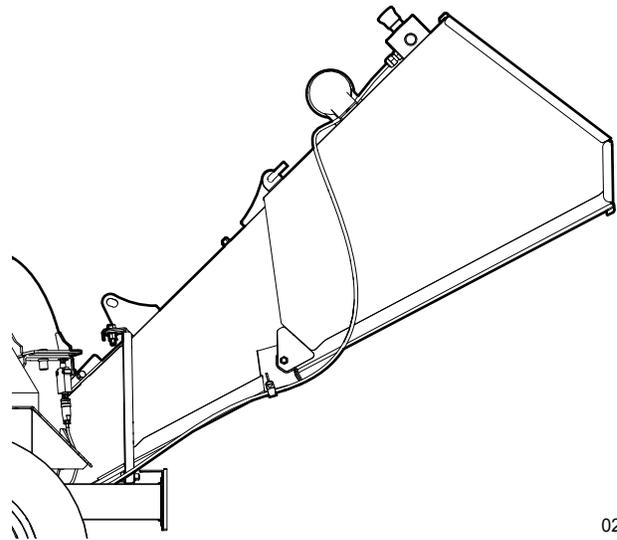

Figure 18—Open position
2. Tilt the chipper hopper to the open position. See *Figure 18*.